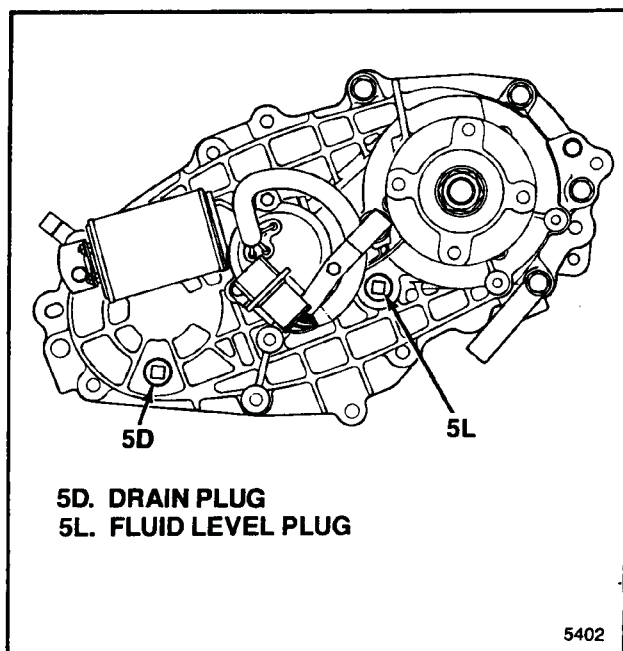

Figure 2-1. Drain and Fluid Level Plugs
- Wipe fluid level plug (see figure 2-1) and surrounding area clean.
- Wipe fluid level and drain plugs (see figure 2-1) and surrounding areas clean.
- e. Place drain pan under transfer case and remove transfer case drain and fluid level plugs (see figure 2-1). Drain all fluid from transfer case and re-install plugs.
g. On mechanical shift units, disconnect shift linkage from transfer case shift shaft (93).
h. Disconnect speedometer cable from transfer case cover (25).
i. Disconnect breather hose from transfer case breather barb (72).
j. Disconnect front driveshaft from transfer case front yoke (70).
k. Disconnect rear driveshaft from transfer case rear output companion flange (4).